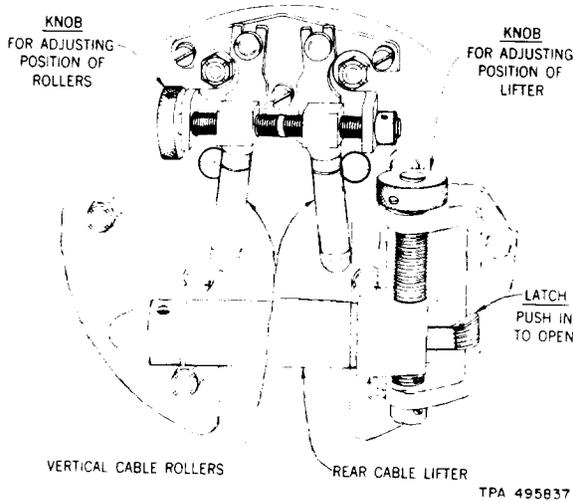

Fig. 4—H Cable Lasher—Rear View
2.04 The rear cable lifter is adjustable vertically, when open or closed, by turning a knurled knob. The rear cable lifter is opened by pressing the latch and swinging the roller to the open position. The rear vertical cable rollers are adjustable by turning a knurled knob. See Fig. 4.